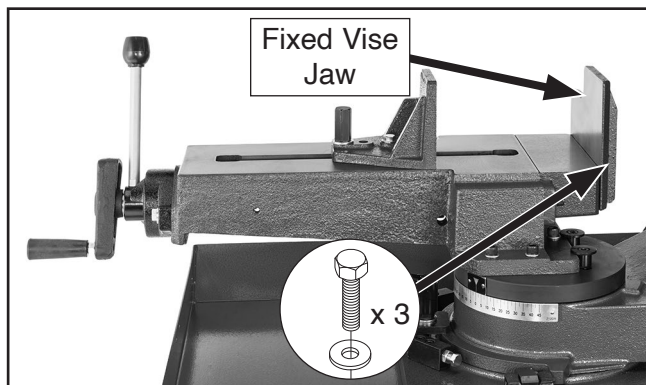

Figure 55. Fixed vise jaw installed.
5. Attach fixed vise jaw to table extension with fasteners removed in **Step 3** (see **Figure 55**).